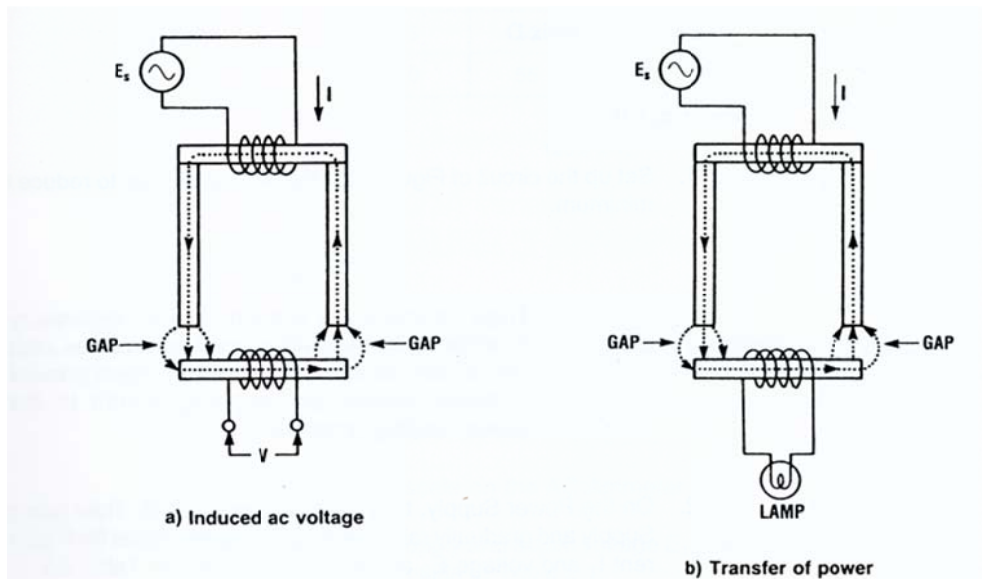

Fig. 1 Energy transferred through air gaps
If a second coil is present, as in the lower part of the magnetic circuit shown in Fig. 1, an AC voltage will be induced across its terminals. Assuming that there is no leakage of flux along the core, i.e., the same flux links both coils, the RMS value of the voltage induced in the second coil is given by (3).